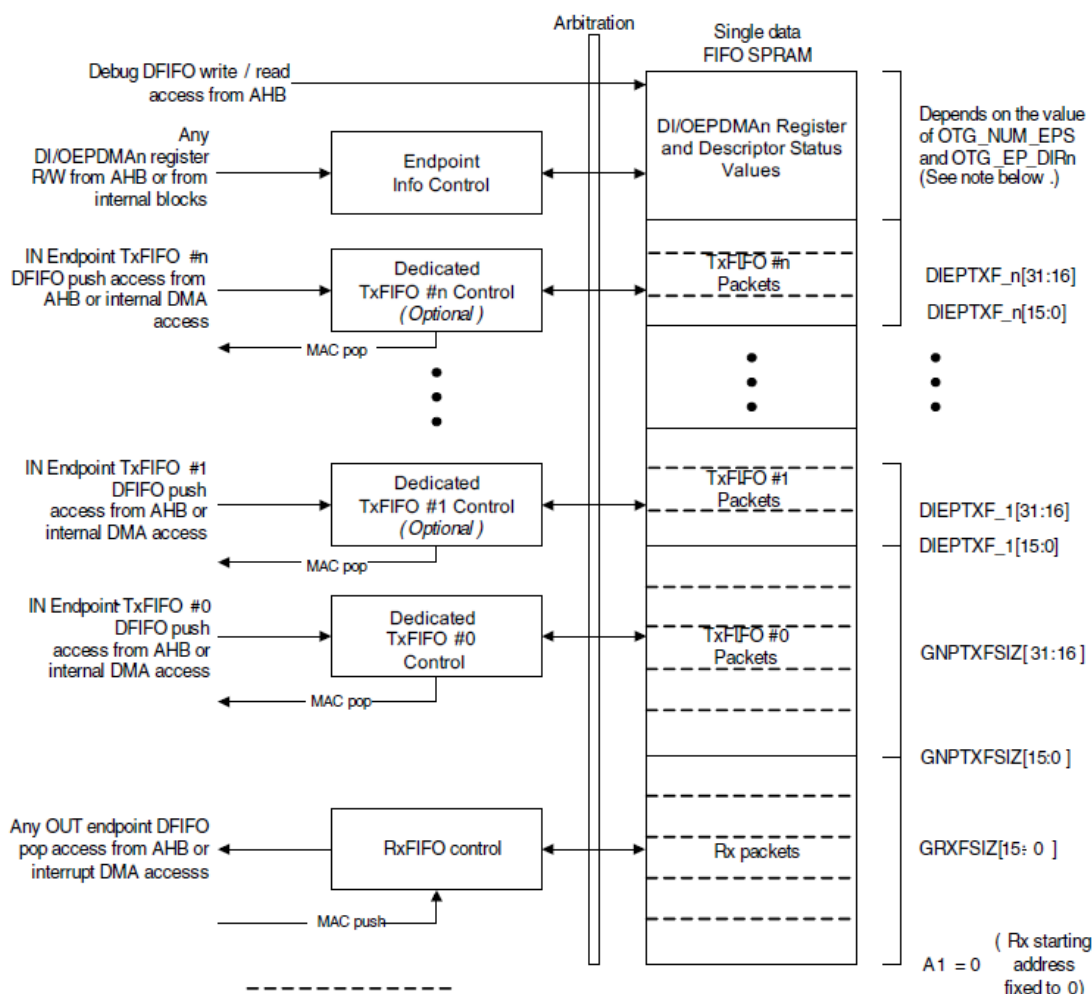

Fig. 26-7 USB OTG 2.0 Controller device mode FIFO address mapping
- Fig.26-7 shows FIFO mapping in Device mode.